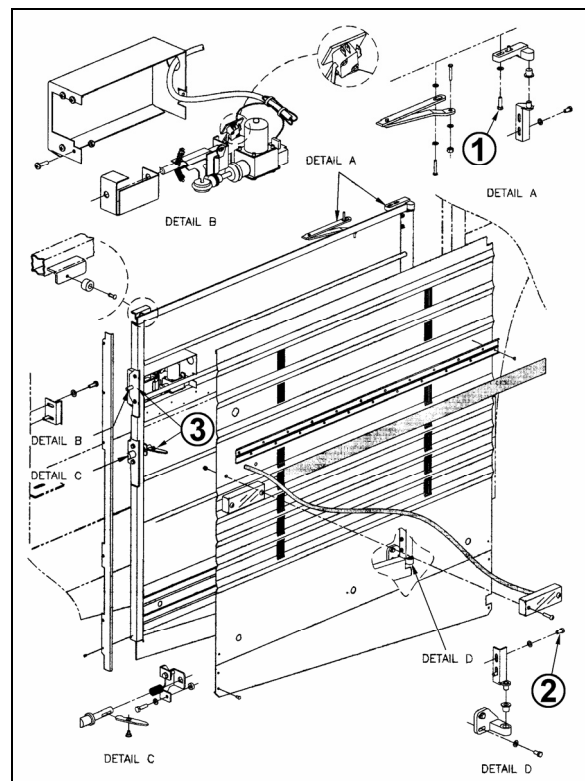

FIGURE 59: ENGINE COMPARTMENT R.H. SIDE DOOR18635
1. Loosen the bolts, (1, Fig. 59) holding the hinge to the vehicle structure to shift the door "IN or OUT" and "UP or DOWN".
2. Loosening the bolts (2, Fig. 59) allows the door to be shifted "LEFT or RIGHT" and "UP or DOWN".
To adjust the latch mechanism (3, Fig. 59) and the striker pin: